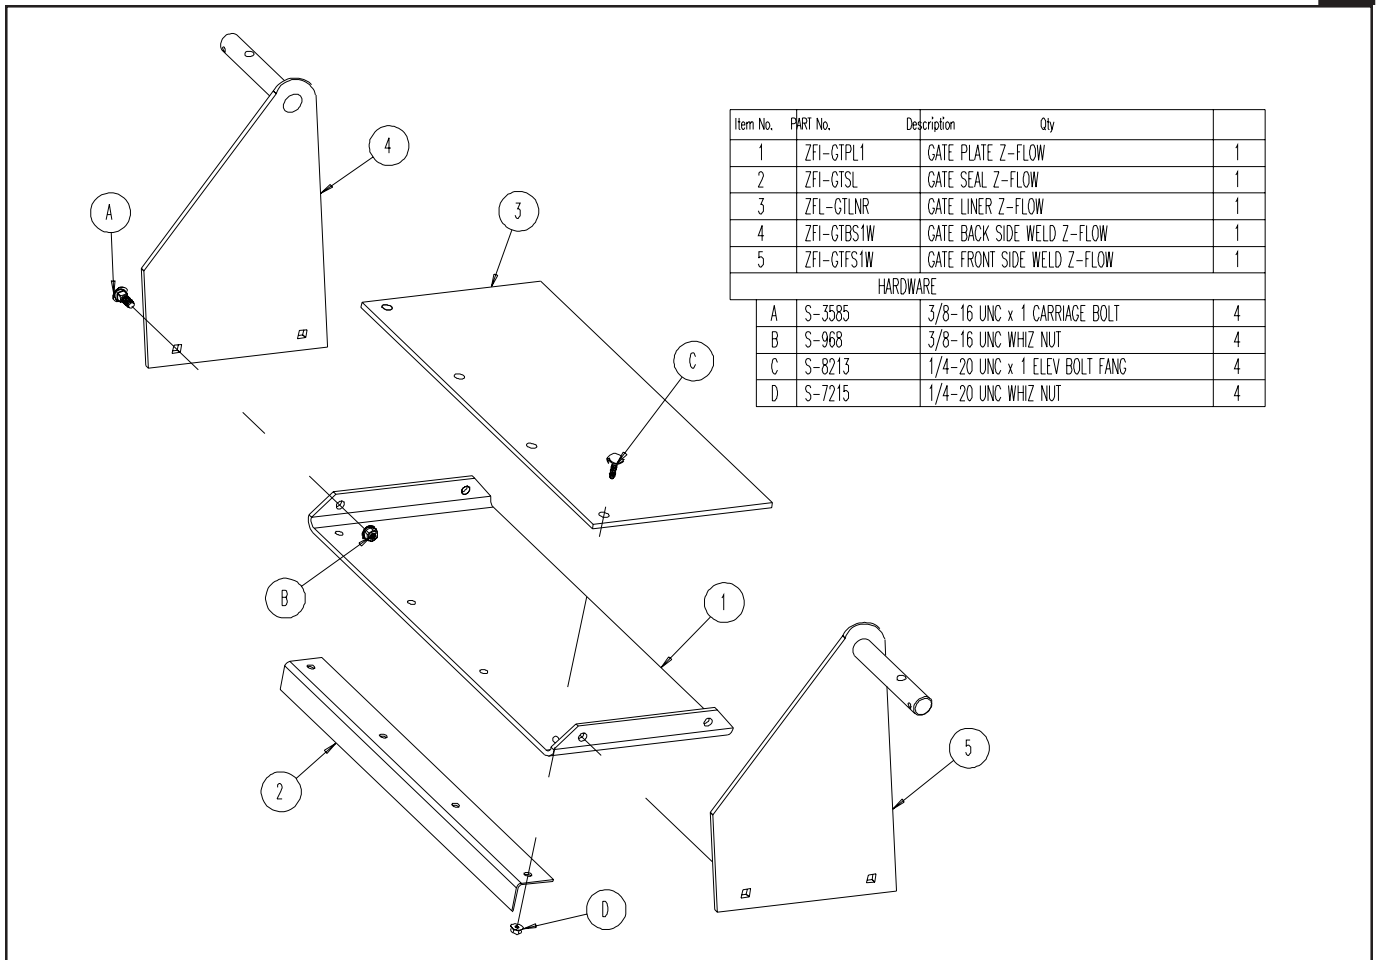

FIGURE 14
*(Refer to Figure 14 for hole alignment.)*
1. Insert the 1/4" x 1" Flanged Elevator Bolts through the Gate Liner (3), the Gate Plate (1), and then through the Gate Seal (2). Fasten together with 1/4" Whiz Nuts.
2. Attach the Gate Back Side Weldment (4) and the Gate Front Side Weldment (5) to the sides of the Gate Plate (1) using 3/8" x 1" Carriage Bolts and Whiz Nuts.